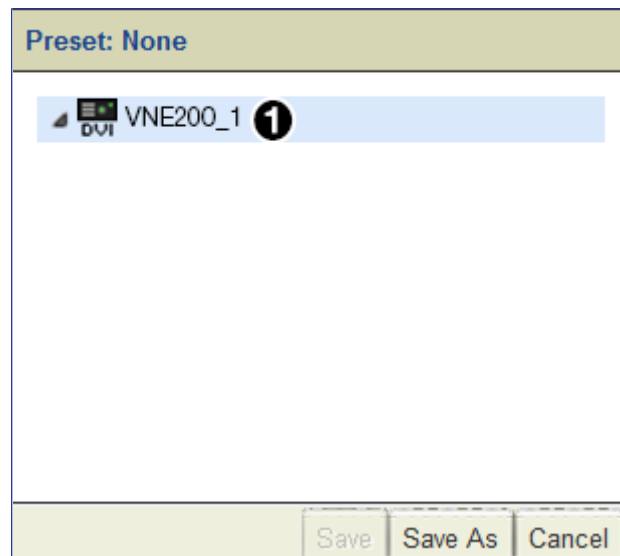

Figure 105. Presets, Drag and Drop an Encoder
2. Drag an encoder from the **Device List** and drop it onto the **Preset** design panel (see figure 105, ❶).